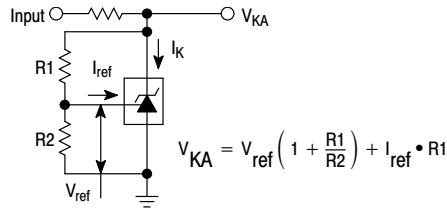

Figure 2. Test Circuit for  $V_{KA} > V_{ref}$
3. The dynamic impedance ZKA is defined as:  $|Z_{KA}| = \frac{\Delta V_{KA}}{\Delta I_K}$ . When the device is programmed with two external resistors, R1 and R2, (refer to Figure 2) the total dynamic impedance of the circuit is defined as:  $|Z_{KA}'| \approx |Z_{KA}| \left( 1 + \frac{R1}{R2} \right)$
6. The dynamic impedance ZKA is defined as  $|Z_{KA}| = \frac{\Delta V_{KA}}{\Delta I_K}$  When the device is programmed with two external resistors, R1 and R2, (refer to Figure 2) the total dynamic impedance of the circuit is defined as:  $|Z_{KA}'| \approx |Z_{KA}| \left( 1 + \frac{R1}{R2} \right)$